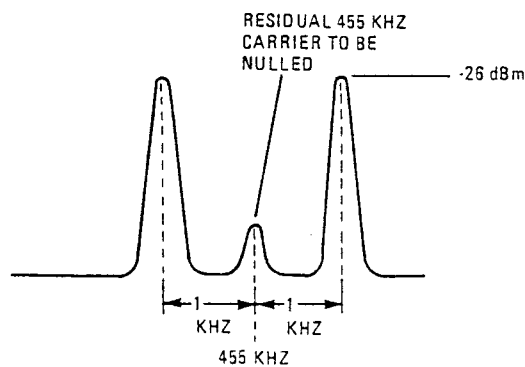

Figure 2. Typical Carrier Null Spectrum Analyzer Display
g. Key exciter PTT line and observe spectrum analyzer display similar to that in figure 2. Adjust spectrum analyzer scan width, bandwidth, and sweep time to allow clear definition of the residual 455 kHz carrier.
- g. Key exciter PTT line and observe spectrum analyzer display similar to that of figure 2. Adjust spectrum analyzer scan width, bandwidth, and sweep time to allow clear definition of the residual 455 kHz carrier.